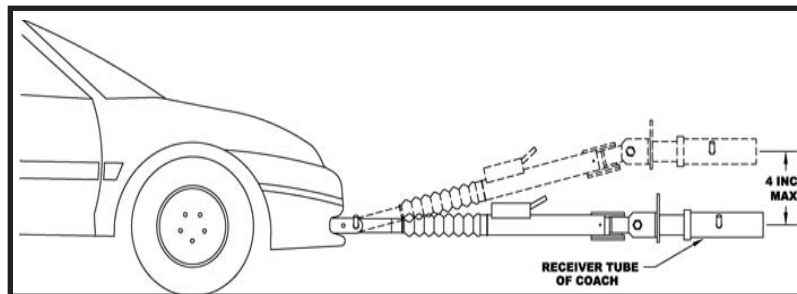

Figure 2
1. Using the cable hooks, attach the cables to a solid part of the chassis of the towed vehicle or to the convenience links. Slip the end of the hook through the neoprene keeper to prevent the hook from unhooking. (See Fig. 3) **NOTE:** It is best to have permanent chains that connect the convenience links to the frame of the car. (See Fig. 2)
CAUTION: It is important that the attachment points at the center of the attachment tabs and the center of the coach's hitch receiver should be of equal distance. If a deviation must be present, it should be no more than four (4) inches from the tabs up to the hitch receiver. There should be no deviation allowed for the hitch receiver tube to be below the level of the attachment tabs. Refer to Figure 2.